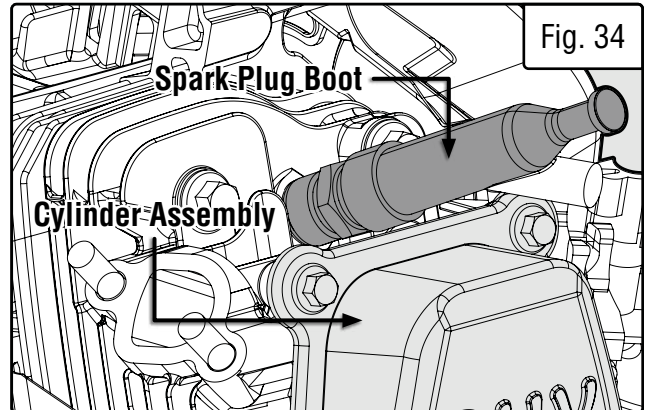

Fig. 34
2. Gently pull on the spark plug boot (Fig. 34) to remove it. Be careful not to tear any insulation or wire.